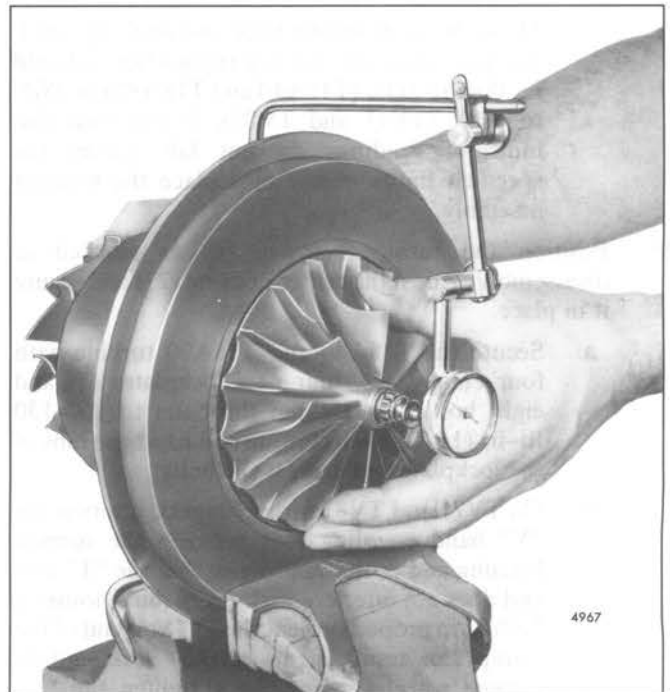

Fig. 11 – Checking Bearing Axial End Play
- a. Clamp the center housing assembly in a bench vise equipped with soft jaws as shown in Fig. 11.
- b. Fasten the dial indicator and magnetic base (J 7872–2) to the center housing so that the indicator tip rests on the end of the rotating shaft on the compressor side (Fig. 11).
18. Position the turbine housing (6) as marked at disassembly against the center housing (27) and secure it in place.
- a. Secure the T18A40 and T18A90 turbine with four clamps (5), four new lockplates (4) and eight bolts (3). Tighten the bolts to 100–130 **lb-in** (11–15 **N•m**) torque and bend the tabs of the lockplates up against the bolts.
- b. On TV71 and TV81 turbochargers, position the "V" band coupling (28) between the turbine housing and center housing so that the "T" bolt end does not interfere with the turbine housing. Failure to properly orient the "T" bolt end of the clamp can result in an exhaust leak and/or turbine wheel damage. Then tighten the "V" band coupling nut, as follows:
19. Position the compressor housing (2) as marked at disassembly against the backplate assembly (14) and secure it in place with the "V" band coupling (1). Lightly lubricate the threads of the toggle bolt with engine oil and tighten the nut to 110–130 **lb-in** (12–15 **N•m**) torque.
- a. Position the magnetic base J 7872–2 with the swivel adaptor J 7872–3 on the flat surface of the turbine housing inlet flange as shown in Fig. 11.
- d. Grasp each end of the rotating assembly (Fig. 11) and, applying equal pressure at each end, move the rotating shaft first toward and then away from the dial indicator, creating a transverse movement in the shaft. Refer to Section 3.0 for dial indicator displacement. If the displacement does not fall within these limits, disassemble and repair or replace the rotating assembly.
- a. Clamp the center housing assembly in a bench vise quipped with soft jaws as shown in Fig. 11.
- b. Fasten the dial indicator and magnetic base (J 7872-2) to the center housing so that the indicator tip rests on the end of the rotating shaft on the compressor side (Fig. 11).